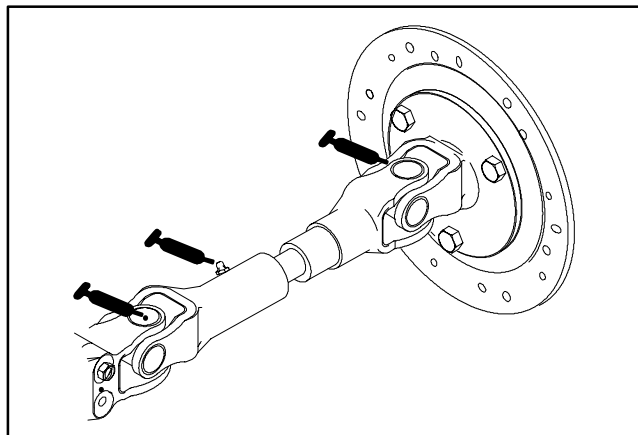

Figure 18
All Models—Intermediate Drive Shaft (3) (Fig. 18); Pedal Pivots (5), Traction pedal (In square tube under floor plate) (1) (Fig. 19) and Lift arm pivot (2) (Fig. 20).